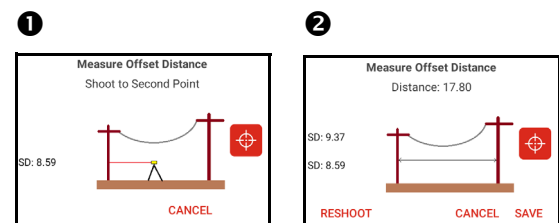

Figure 31
2. Follow the prompts (Figure 31) and the data will be saved to the NOTES tab.